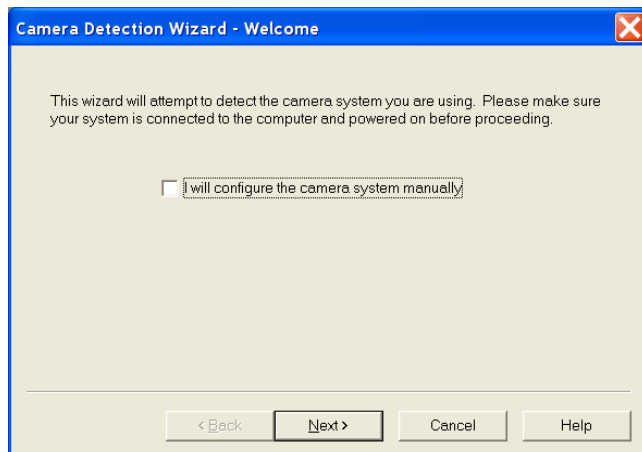

Figure 8. Camera Detection Wizard - Welcome dialog
3. On the **Welcome** dialog (Figure 8), leave the checkbox unselected and click on **Next**.